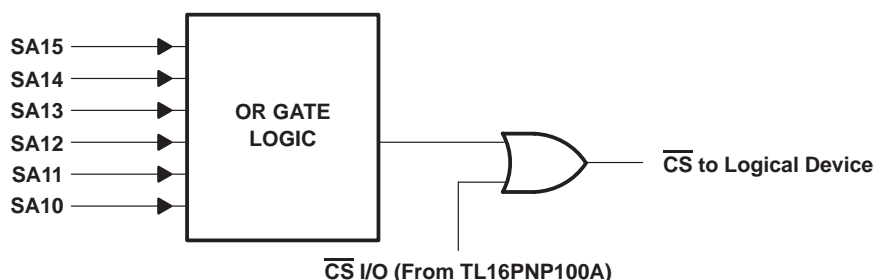

Figure 4. Gate Logic Modification
1. Modify the gate logic on the board as shown in Figure 4.